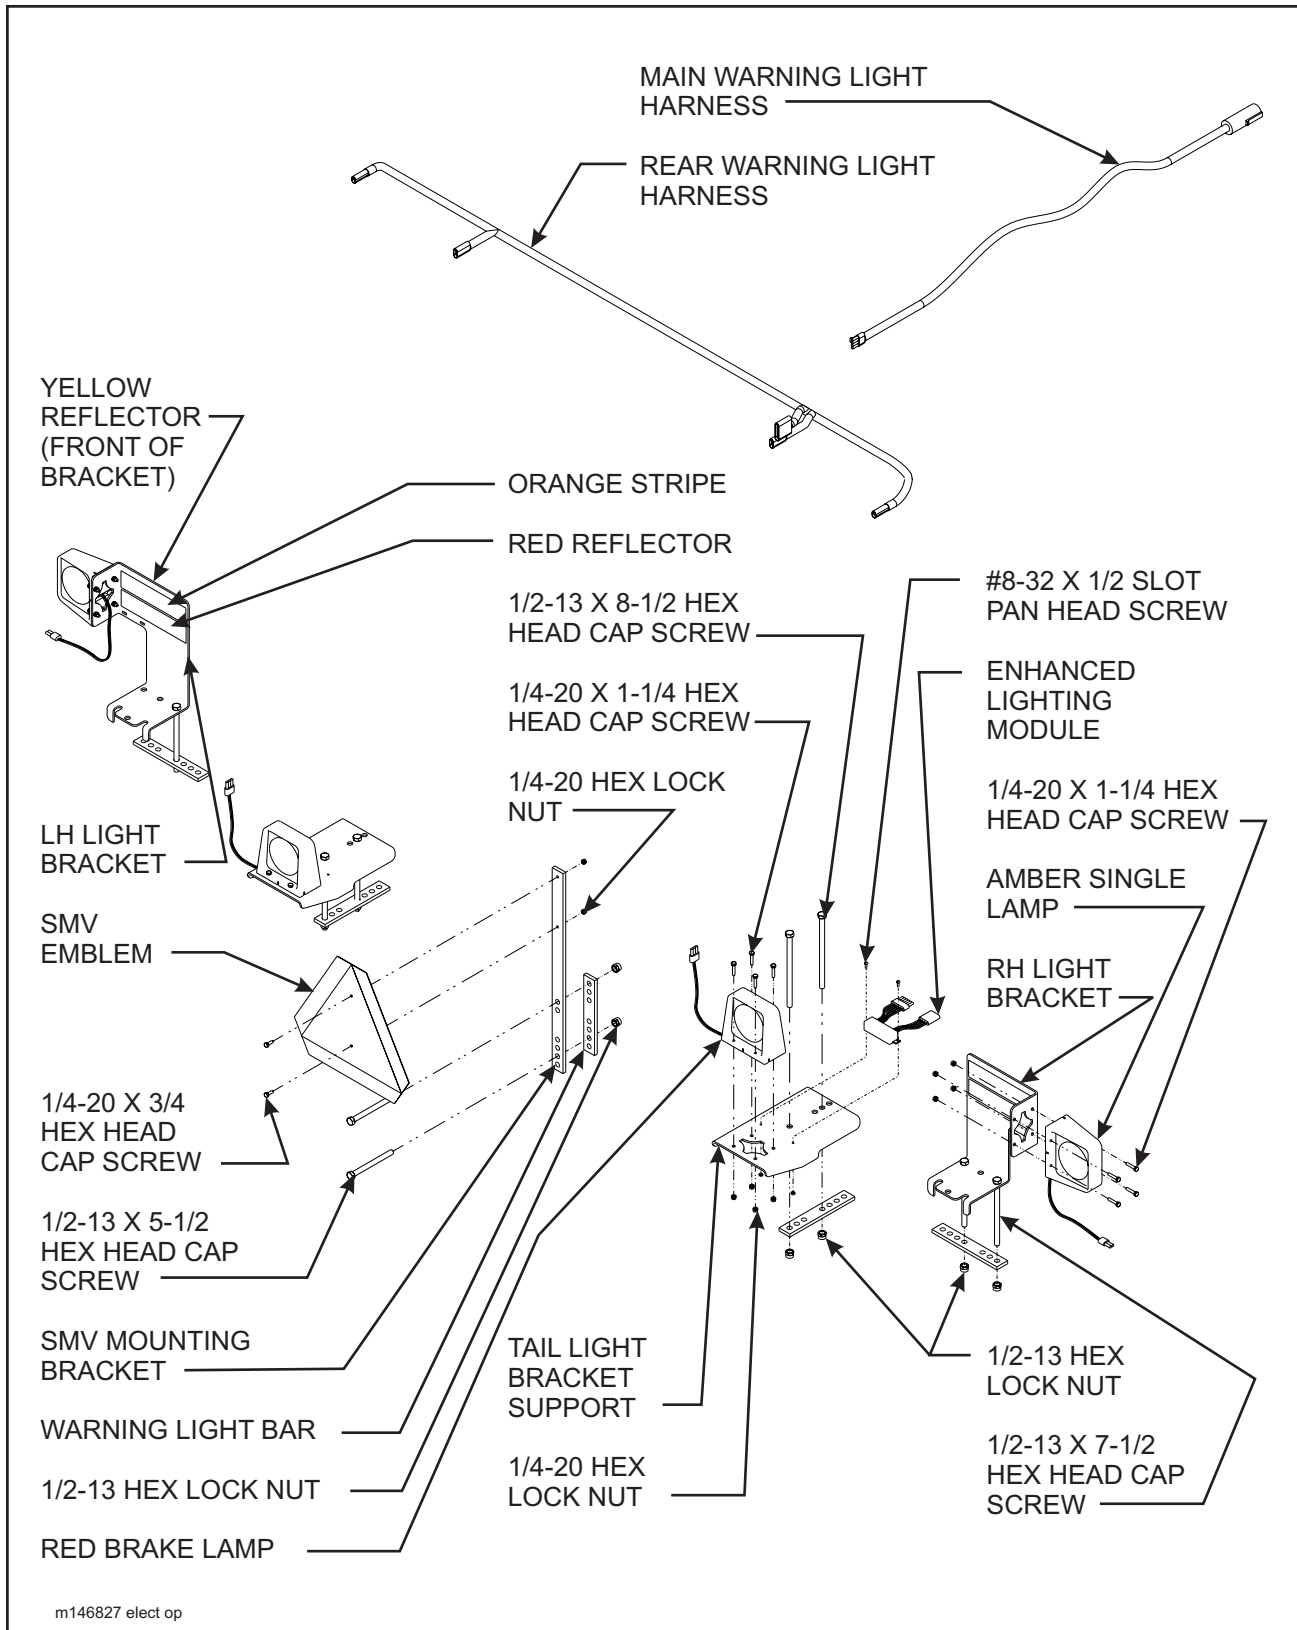

Figure 3-11 Light and SMV Bracket Installation
- 3-11.1** Attach inner tail light mounting bracket supports to the center frames using 1/2-13 x 8-1/2 hex head cap screws, warning light bars, and hex lock nuts **(See Figure 3-11)**.